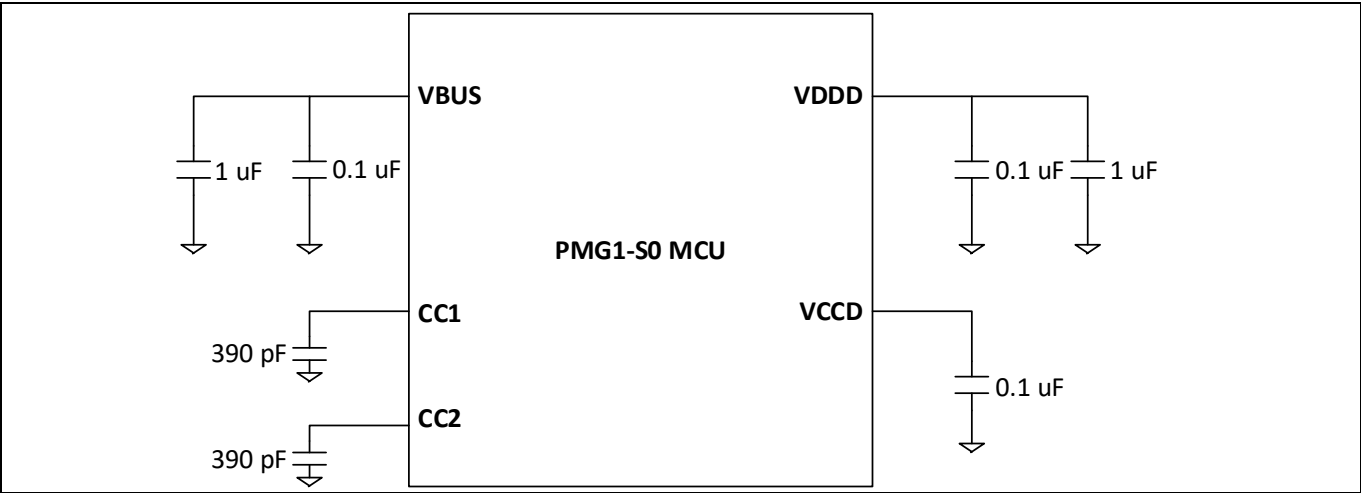
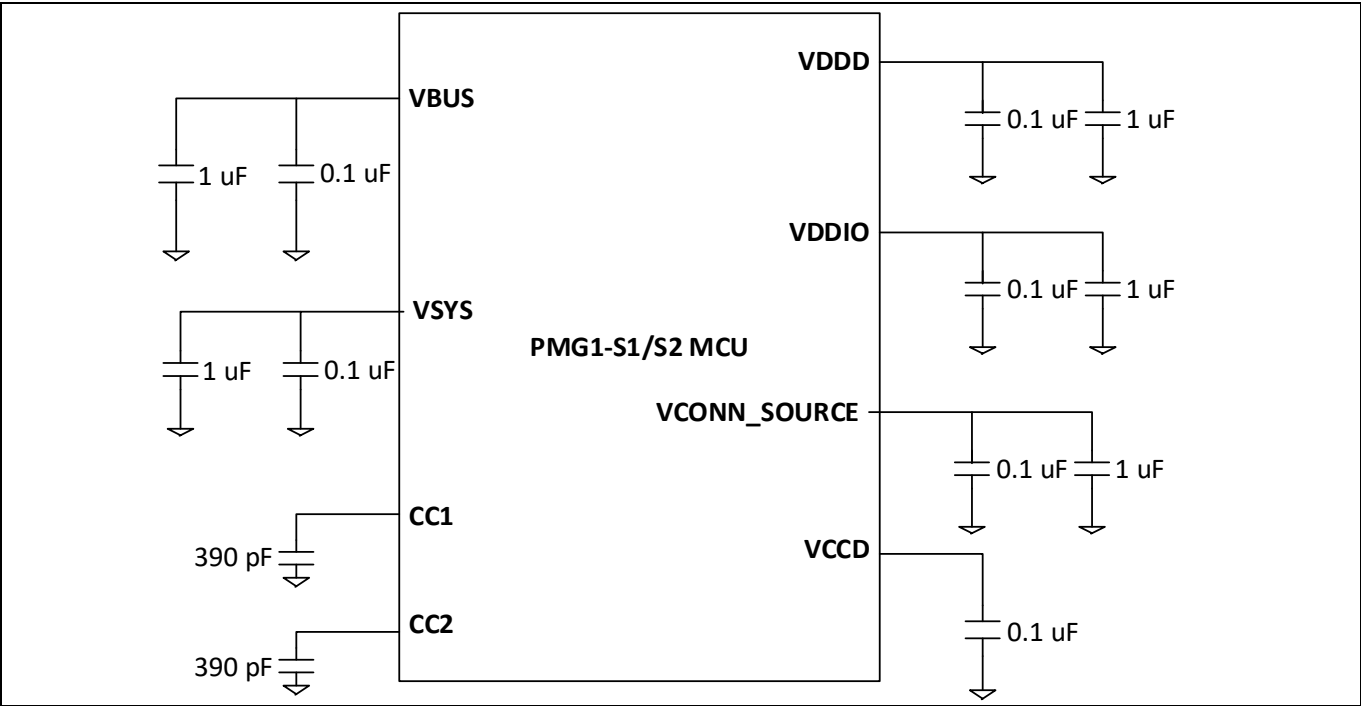

Figure 3 EZ-PD™ PMG1-S0 MCU decoupling capacitor
Figure 4 EZ-PD™ PMG1-S1, EZ-PD™ PMG-S2 MCUs decoupling capacitors
- Ensure that the VBUS pin of the MCU is the power input pin. Connect the power pin of the Type-C connector to the VBUS pin as shown in Figure 3 and Figure 4.